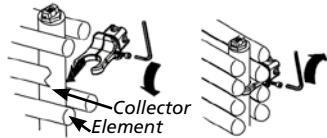

**Fig 3**
4. Raise radiator and slot into Wall sleeves "**A**" and tighten (*Fig. 3*).